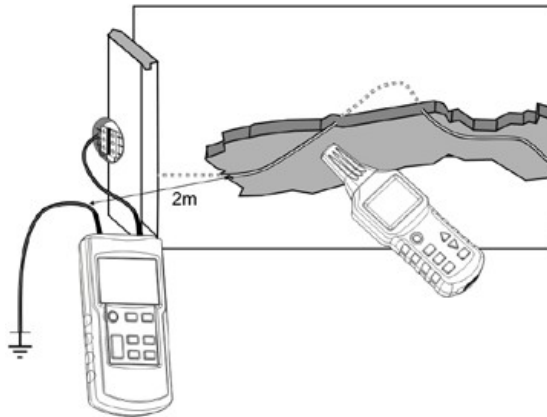

Fig. 17
1. Connect the transmitter as shown in Figure 17.